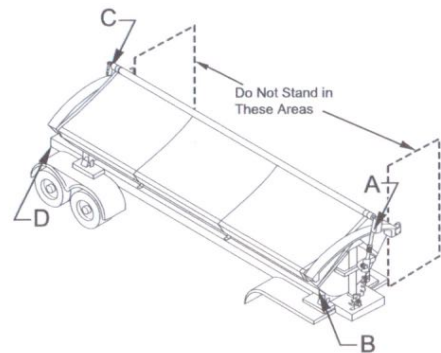

Figure 1
- 1) **See Figure 1.** Attach one end of the come-along to the front swing-arm (A), near the motor housing. Attach the other end of the come-along to the trailer on the side the tarp is anchored (B).
- 2) **See Figure 1.** Attach another come-along between the rear swing-arm (C) and trailer (D).